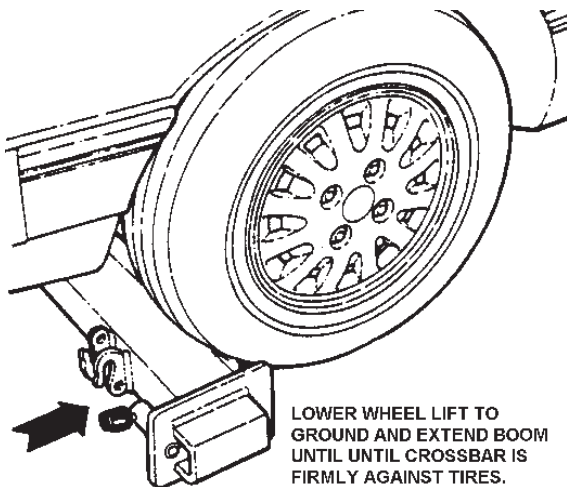

FIGURE 4A.6
- (c) Disengage the tire restraint Plunger by pulling out and rotating 90°. See Figure 4A.7.